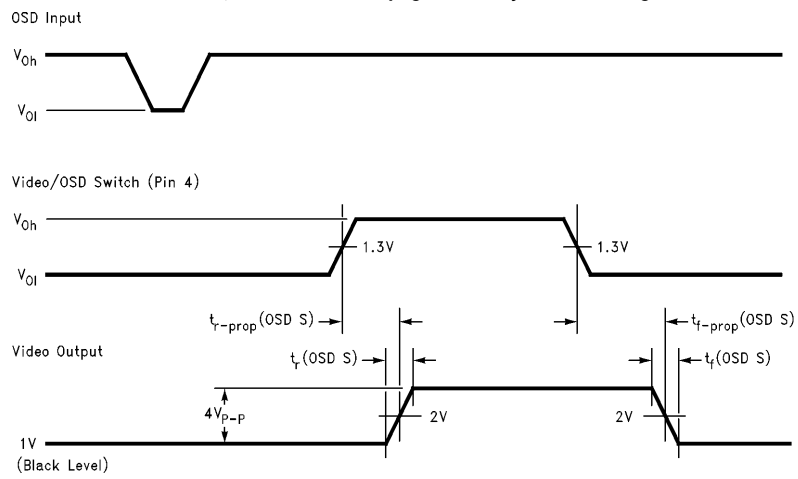

FIGURE 3
**AC Electrical Characteristics** See AC Test Circuit (Figure 3),  $T_A = 25^\circ\text{C}$ ,  $V_{CC1} = V_{CC2} = 12\text{V}$ ;  $V_4 = 0\text{V}$ . Manually adjust Video Output pins 18, 20, and 23 to 4V DC for the AC test unless otherwise stated (Note 15)
**Note 16:** When  $V_1 = V_2 = V_3 = 0\text{V}$  and the video input is 0.7V, then  $t_r$  (OSD) = 11 ns and  $t_f$  (OSD) = 4 ns. The Video Output waveform will be inverted from the one shown in Figure 3. Thus  $t_r$  (OSD) is actually a fall time and  $t_f$  (OSD) is actually a rise time in this condition.